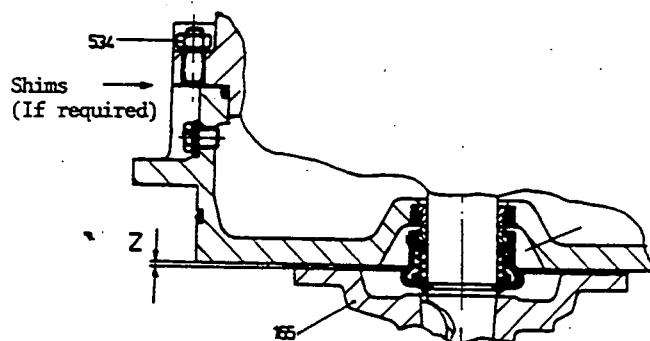

Fig. 31
The impeller flange nut must be tightened to 12 mkp (90 ft-lbs) by using torque wrench. Bend over locking washer tab. Measure the clearance between the impeller flange (165) and the housing (507) with a feeler gauge. This clearance must be within the values given in the table below. If ever the clearance has to be adjusted, this can be done by inserting or revising shims between oil chamber casing (504) and seal chamber (507) close to fastening sets (534). See arrow, Figure 31.